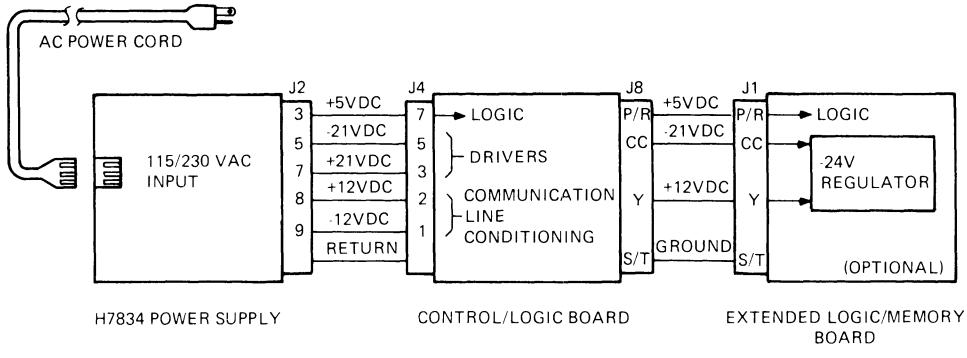

Figure 5-20 DECwriter IV Power Distribution
**5.4.6.1 Power Distribution** – Power is distributed through the terminal as shown in Figure 5-20. Line voltage (115/230 Vac) enters the supply through a detachable power cord. The supply transforms line voltage into five direct current voltages; +5, +12, -12, +21, and -21 Vdc. The dc power exits the supply at connector J2, is conducted across an 8-wire cable, and enters the control/logic board via J4.